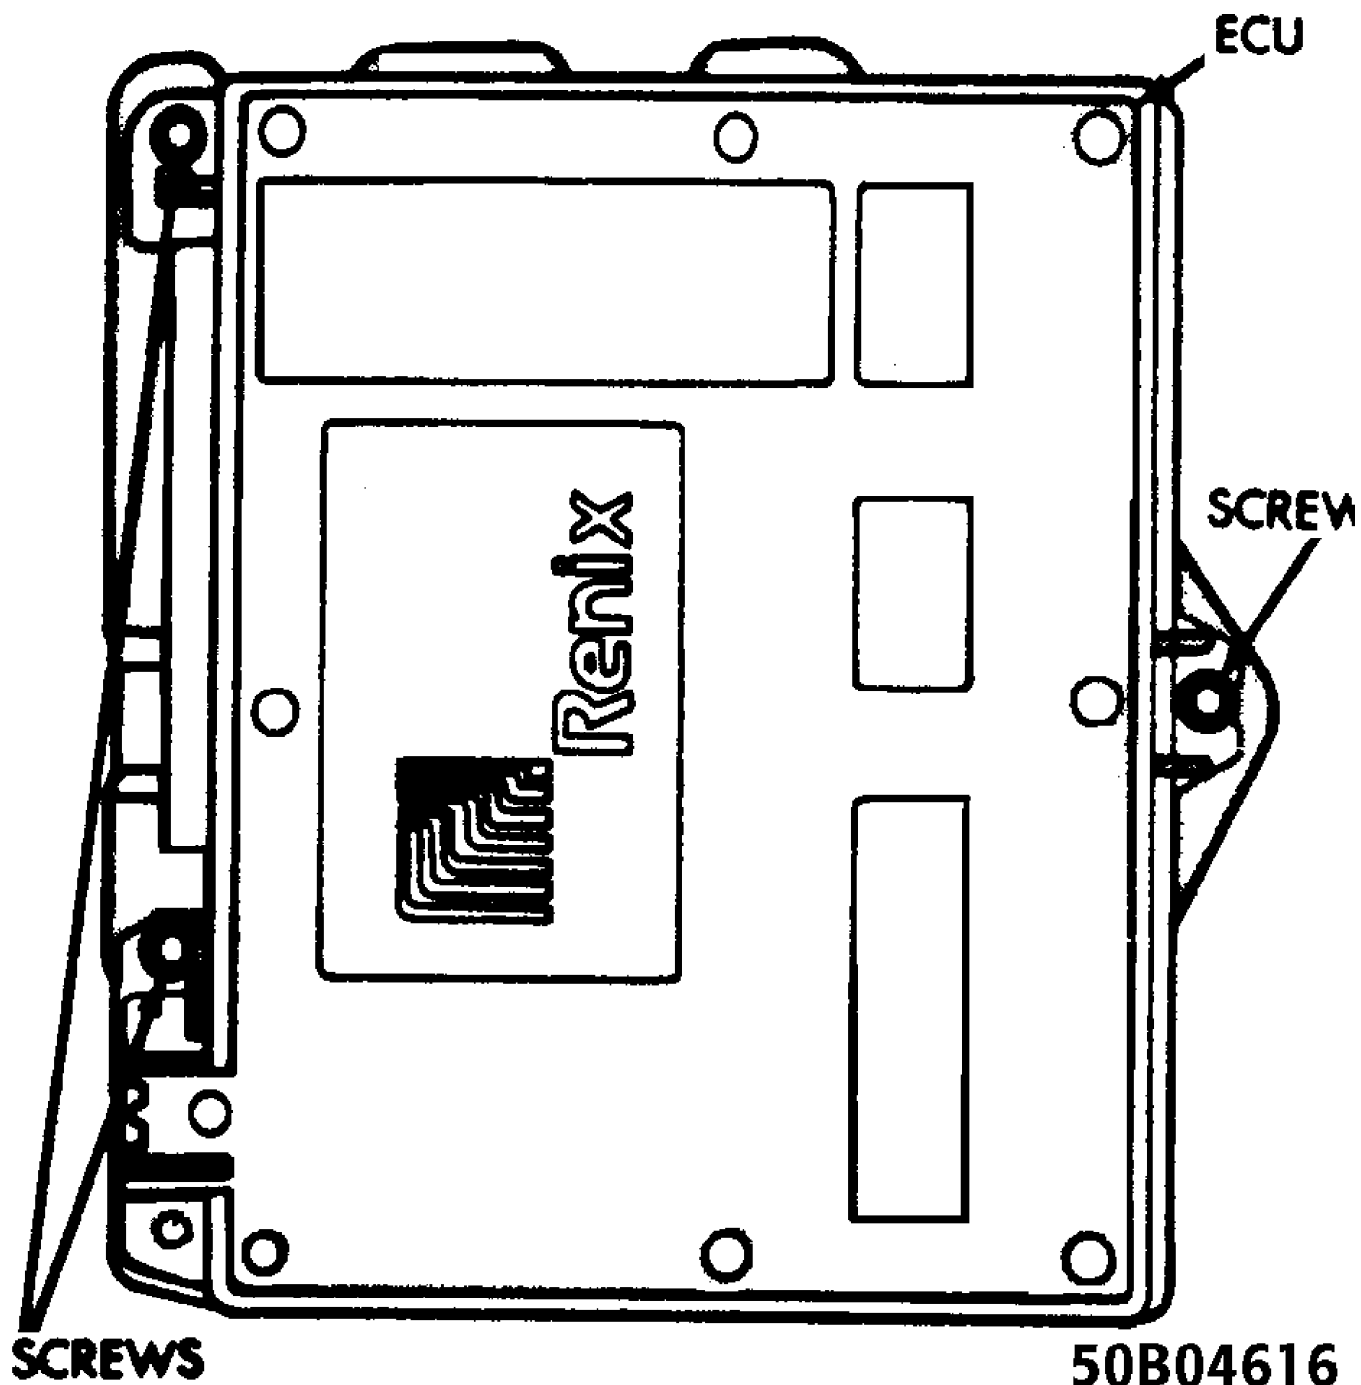

Fig. 23: Location of ECU Mounting Screws
- 2) Remove the 3 ECU attaching screws. See Fig. 23.
- 2) While holding the ECU in position, attach the 3 ECU attaching screws. See Fig. 23.